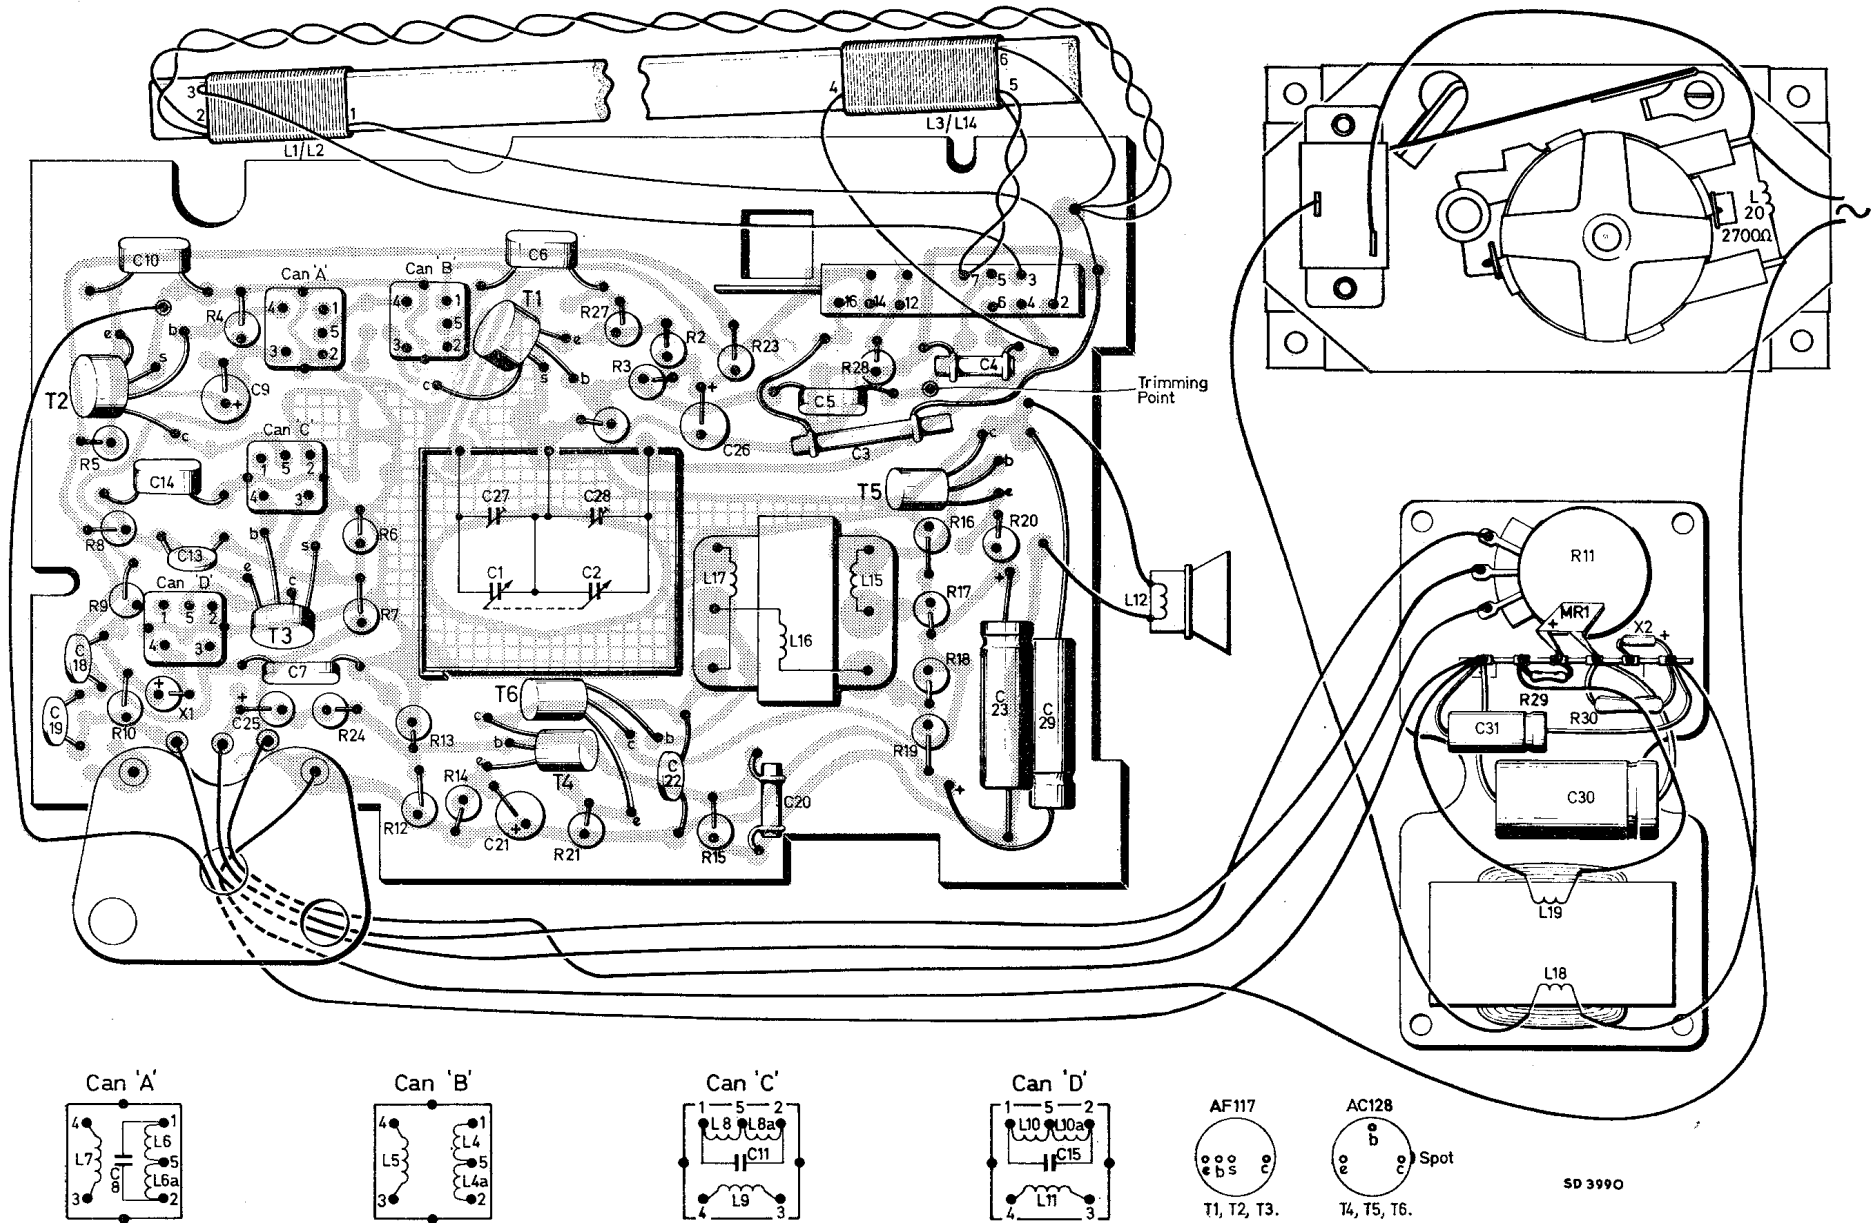

Fig. 4 Printed panel and wiring diagram
in paras. (b) and (c). Swivel the four spire clips (one in each corner of the front moulding) through 90° and lift off the perspex facia. With the alarm set control, set all the clock hands to 12 o'clock, then remove the sweep, minute, hour and alarm hands, in that order, from their respective spindles (reverse order for re-assembly). Remove the control knob pointers and detach the silver clockface. (Do not attempt to remove the control knobs before removing the clock unit from the front moulding). Prise off the four circular spire clips and remove the rubber washers holding the clock unit to the front moulding. Disconnect the four leads to the clock unit, two to the motor and two to the switch (see Fig. 4), after which the unit can be removed.
2. Apply a signal of 470kHz to the trimming point provided (see Fig. 4) via a 470kpF capacitor.
1. Connect the generator to the trimming point provided (see Fig. 4) via a 470kpF capacitor.